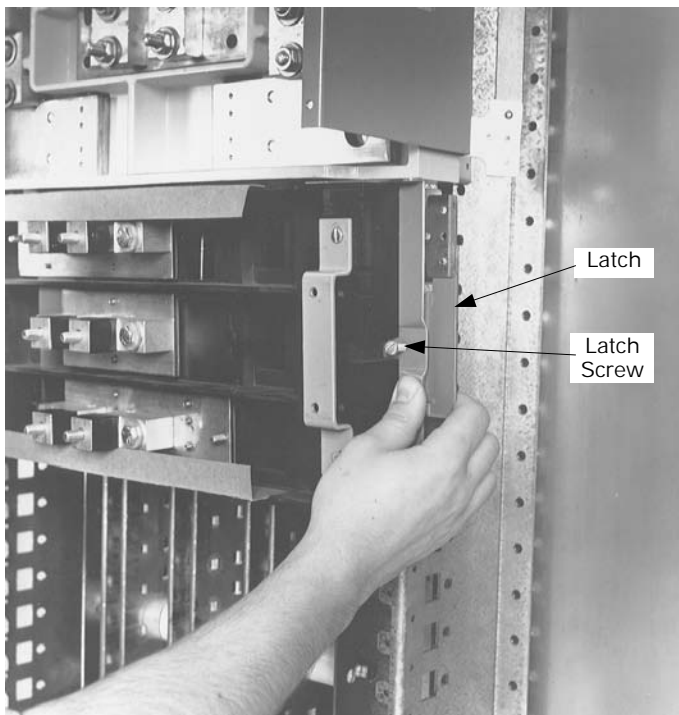
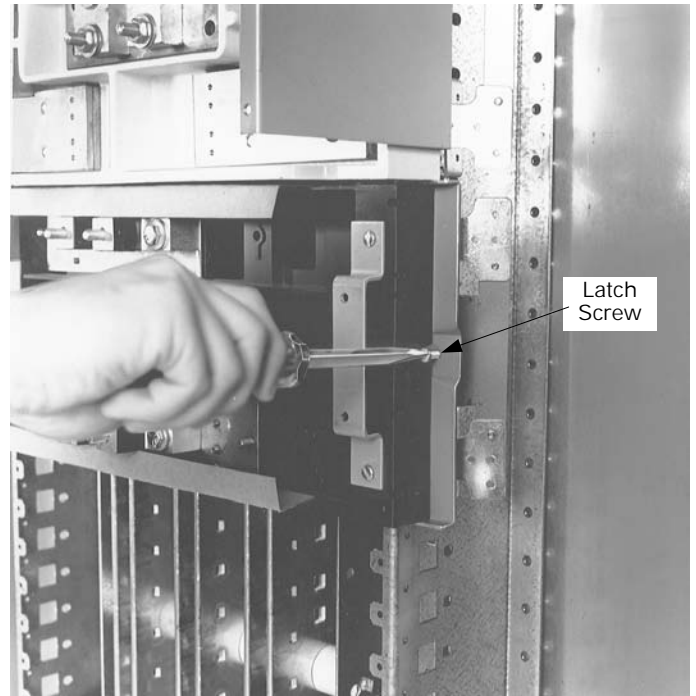

Figure 9. Positioning the breaker module on the interior rail.
Figure 10. Securing the module to the interior.
**6. Install the module.** Fully retract the latches and hook one side of the breaker module to the interior rail, as shown in Figure 9. Release the latch. Pivot the module onto the bus bars and engage the second latch. Release the latch. Tighten the latch screws to 25 in-lb, as shown in Figure 10.